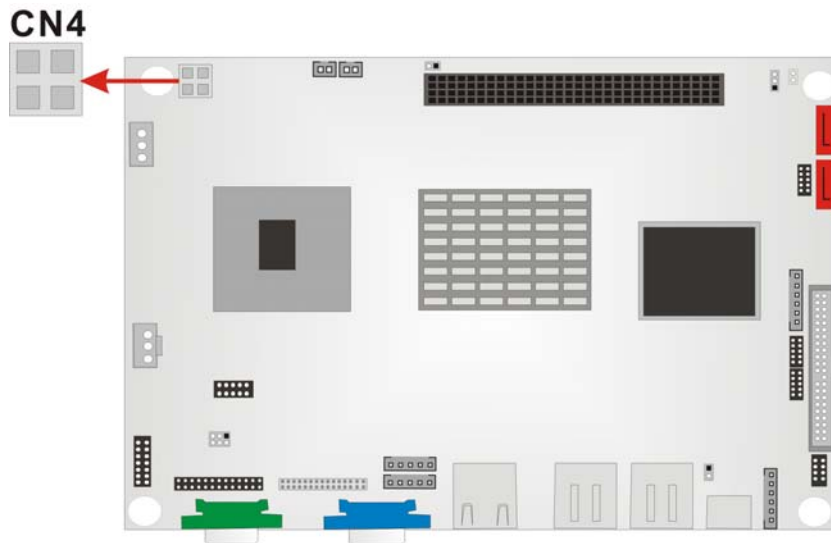

Figure 3-8: 12V Power Connector Location
- CN Location:** See Figure 3-8